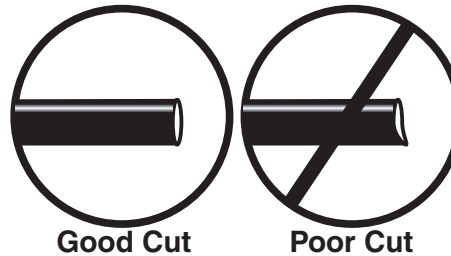

fig. 6
WHEN CUTTING OR TRIMMING THE AIR LINE, USE A HOSE CUTTER, A RAZOR BLADE OR A SHARP KNIFE. A CLEAN, SQUARE CUT WILL ENSURE AGAINST LEAKS. DO NOT USE WIRE CUTTERS OR SCISSORS TO CUT THE AIR LINE. THESE TOOLS MAY FLATTEN OR CRIMP THE AIR LINE, CAUSING IT TO LEAK AROUND THE O-RING SEAL INSIDE THE ELBOW FITTING (FIG. 6)
7. On the passenger side only, place the provided thermal sleeve (T) on the air line near the exhaust.
8. Cut off air line leaving approximately 12" of extra air line. A clean square cut will ensure against leaks (see fig. 6). Insert the air line into the air fitting. This is a push to connect fitting. Simply push the air line into the 90° swivel fitting until it bottoms out (9/16" of air line should be in the fitting).